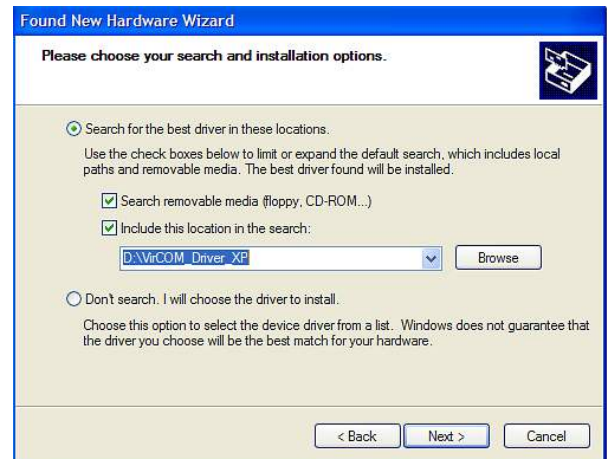

Figure 6. Search for Driver Window
- c. Select **Browse my Computer for Driver Software**. A window similar to that shown in Figure 6 appears.
3. In the **Found New Hardware Wizard** window, select the **Install from a list or specific location (Advanced)** option and click **Next >**. The window shown in Figure 6 appears.